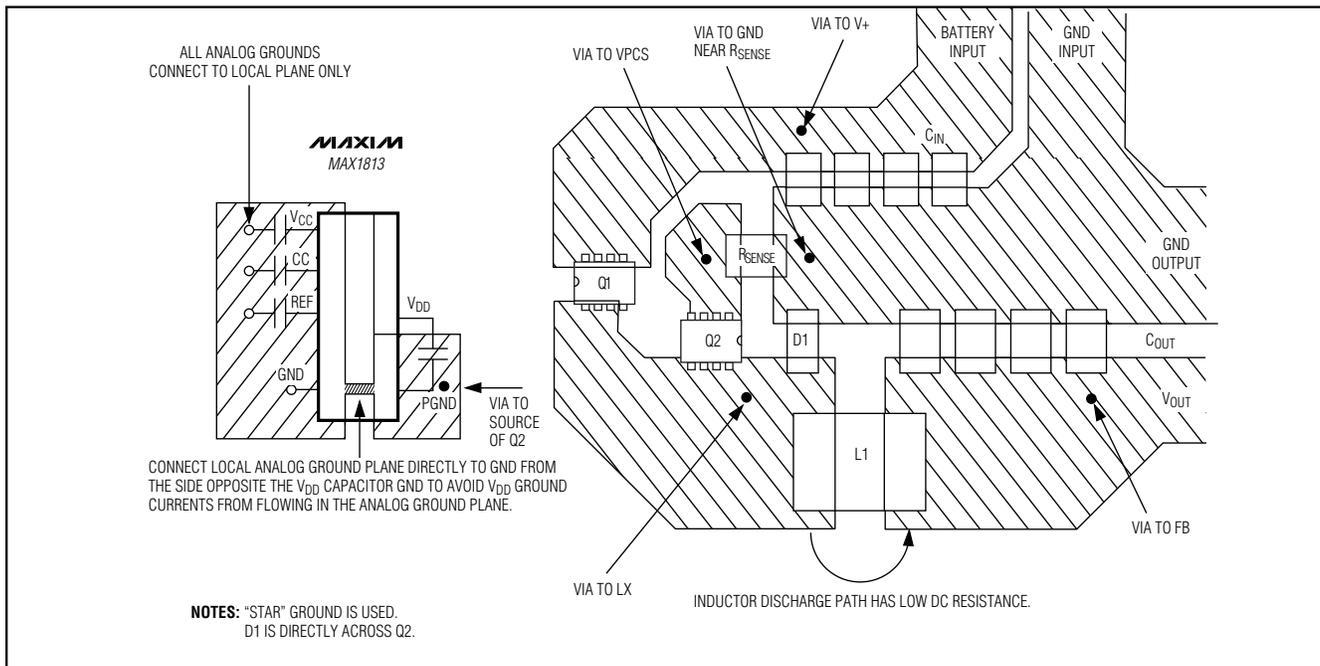

Figure 19. Power-Stage PC Board Layout Example
Careful PC board layout is critical to achieve low switching losses and clean, stable operation. The switching power stage requires particular attention (Figure 19). If possible, mount all of the power components on the top side of the board, with their ground terminals flush against one another. Follow these guidelines for good PC board layout:
- 4) Make the DC-DC controller ground connections as shown in Figure 19. This diagram can be viewed as having three separate ground planes: output ground, where all the high-power components go; the power ground plane, where the PGND pin and  $V_{DD}$  bypass capacitor go; and an analog ground